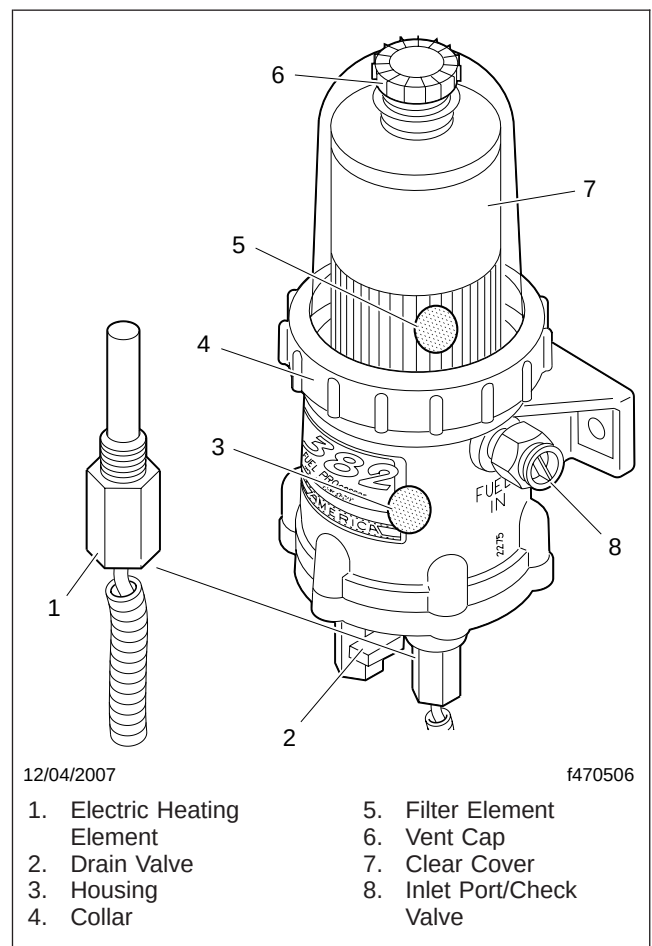

Fig. 1, Fuel Pro 382 With Electric Heating Element
2. Disconnect the pre-heater from the wiring harness, see Fig. 1.